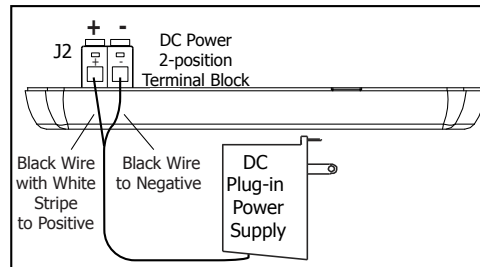

Figure 3: 1118 Side View
3. Wire the power supply to the J2 terminal block. Connect the Black wire with the White stripe to the positive terminal and the Black wire to the negative terminal. See Figure 3.